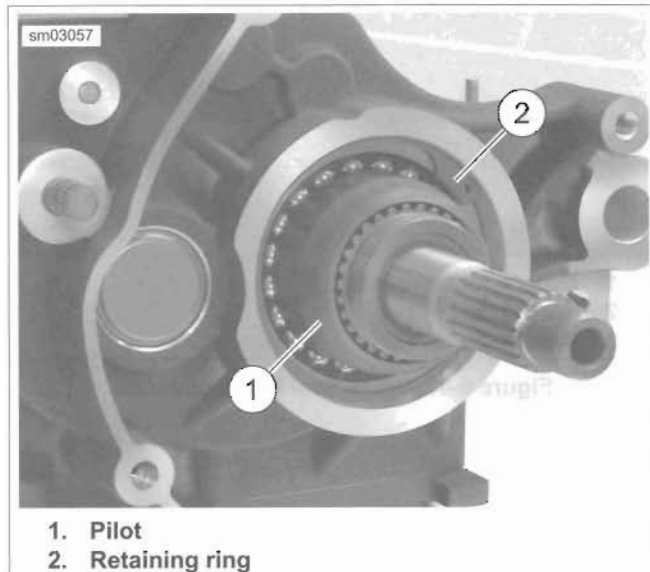

Figure 6-45. Install Pilot
4. See Figure 6-45. Install new retaining ring (2).
1. See Figure 6-45. From outside of crankcase, install PILOT (Part No. HD-47856-2) over end of main drive gear bearing inner race.